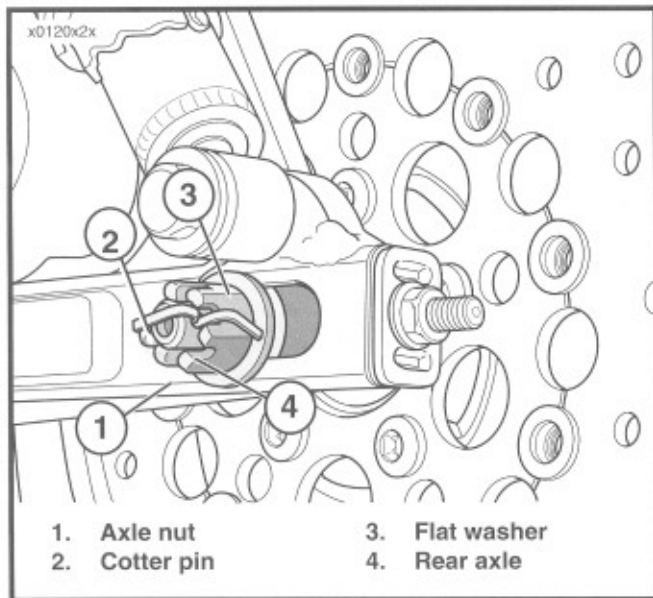

Figure 2-8. Rear Wheel Mounting
3. See Figure 2-8. Remove cotter pin (2), axle nut (1) and flat washer (3).